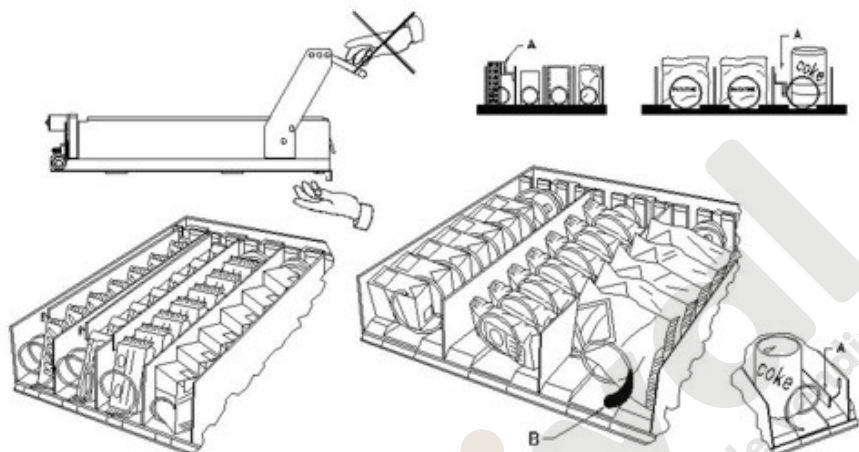

fig. 3
8.2 TRENNWÄNDE FÜR PRODUKTE IN DEN SCHUBLADEN (fig. 3)
8.3 AUSSTÖßER FÜR PRODUKTE (fig. 3)